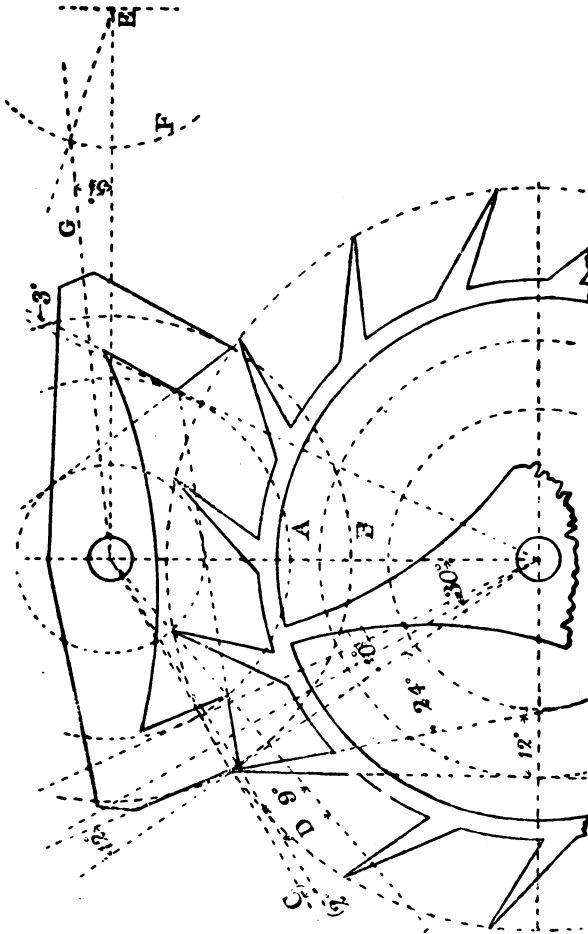

Fig. 3.
\* When the tooth is pressing on the locking, the line of pressure should pass through the centre of the pallet staff. But as the locking faces of the two pallets are not equidistant from the centre of motion, a tangent drawn from the locking corner of one pallet would be wrong for the other, and, as a matter of fact, if a diagram is made it will be found that even when the pallets are planted as close as possible they are hardly as close as they should be for the right-hand pallet. To plant as close as possible is, therefore, a very good rule, and is the one adopted by the best pallet makers; though in setting out the escapement a chord of the width of the pallet is produced to find the centre of the staff, as shown in Fig. 3.
Fig. 3 is appended as a guide to students in setting out the escapement. A circle representing the extreme diameter of the escape wheel is taken as a basis, and on the left of the centre line is set off, by means of a protractor, the middle of one pallet ( $30^\circ$ ) and its width ( $10^\circ$ ). The chord of this arc of  $10^\circ$  is then produced till it cuts the centre line, and this intersection is taken as the centre of the pallet staff. From the pallet-staff centre curves, A and B, representing the paths of the pallet corners, are drawn. The amount of locking C (say  $2^\circ$ ) and impulse D (say  $9^\circ$ ) are set off from the chord of the left-hand pallet. The impulse plane is traced through the intersection of the angular lines with the curves A and B, and the line of the plane produced towards the centre of the staff as shown. From the centre of the staff is described a circle just touching the line so produced. The impulse plane of the other pallet forms a tangent to this circle. In this position of the pallets, a line drawn from the locking corner of the left-hand pallet to form an angle of  $12^\circ$  with the radial line from the centre of the wheel, will be required to show the locking face of the pallet, and a similar line forming  $3^\circ$  will answer for the locking face of the right-hand pallet. Mark off the centre of the roller (E), and take, say, one-fourth of the distance between this centre and the centre of the pallet staff for the position of the centre of the impulse pin, and describe the arc F to represent its path. The line G, forming with the centre line running through the roller an angle equal to half the total angle of the motion of the pallets, or  $5\frac{1}{2}^\circ$ , will represent the centre of the lever. The wheel teeth are set back about  $24^\circ$  from a radial line, so as to bear on their points only, and the rim of the wheel extends to about three-fourths of the whole radius. The remaining parts may be